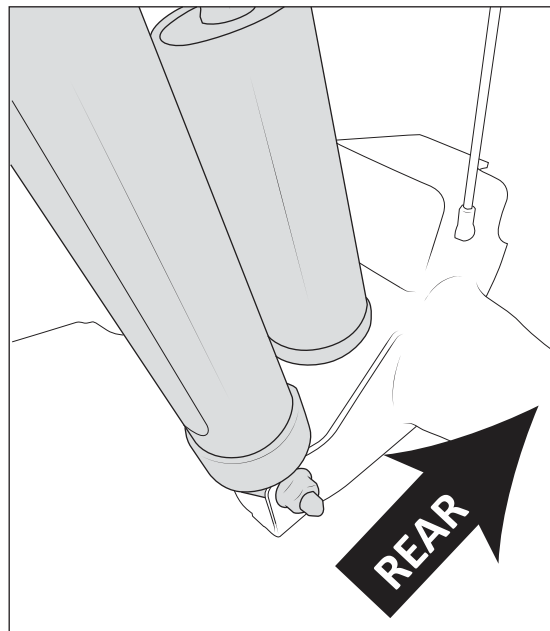

Figure 12
2. Install lower bushing to axle bracket. Reservoir should point toward axle tube (fig. 12). Reinstall factory shock bolt and torque to 89 ft-lb.